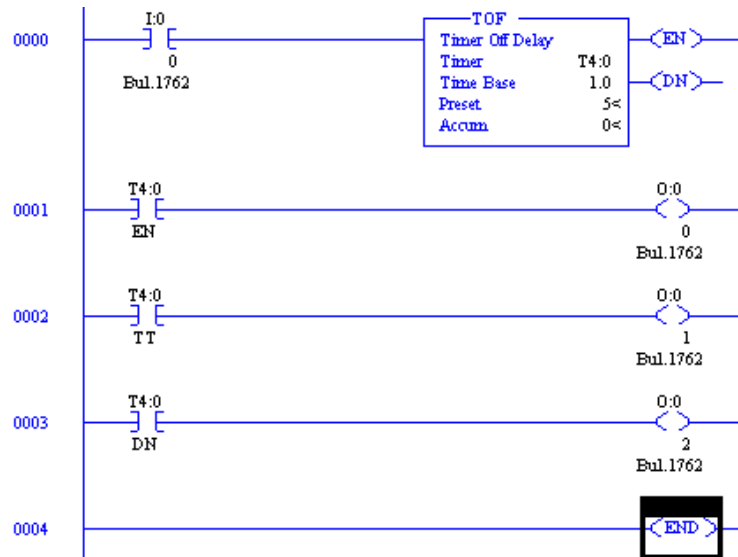

Figure 57. Ladder program using a TOF instruction.
20. Replace the TON instruction with a TOF instruction in your program. Set the parameters of the TOF instruction as shown in Figure 57.